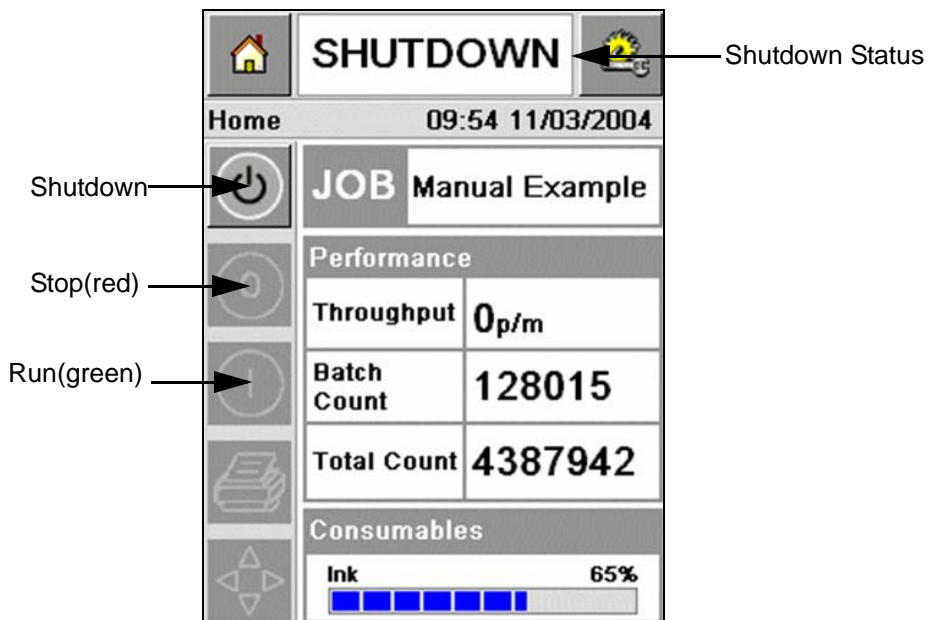

Figure 4-3: Home Screen
- 3 When the self-diagnostic checks are complete, the CLARiTY Home screen appears (refer to Figure 4-3).
- 5 During the *SHUTDOWN* status, the *Stop* (red) and *Run* (green) buttons (Figure 4-3) are disabled (in grey color).